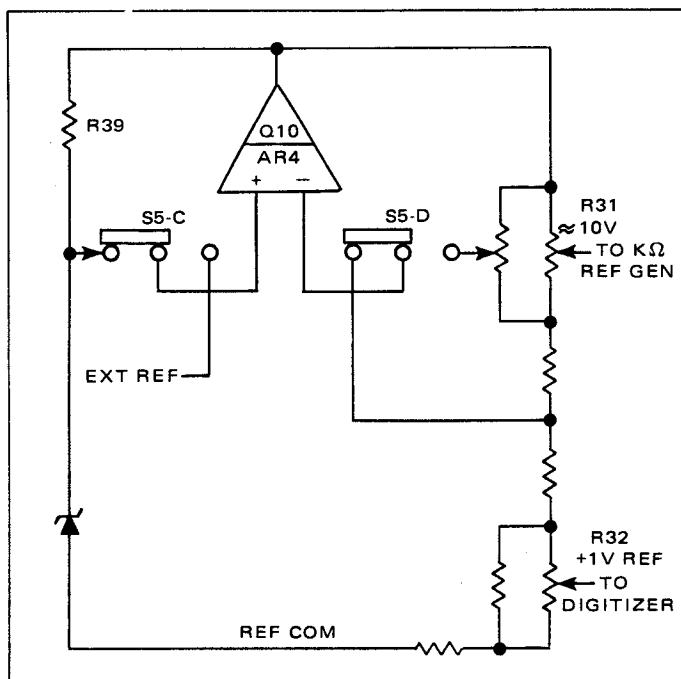

Figure 4.10 - Reference Generator
4.3.9.1 The reference generator produces the accurate one-volt to the digitizer circuits for measurement of AC and DC voltages. It also furnishes a 10 volt reference voltage to ohms reference circuit for use in the ohms measurement functions. The reference generator is shown in simplified schematic form in figure 4.10 and in complete schematic form on sheet 2 of drawing number 432104, page 6-15.